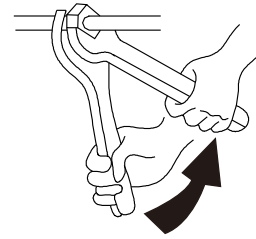

Fig. 4.4
- (2) As shown in Fig. 4.4, screw up the nuts with 2 spanners.